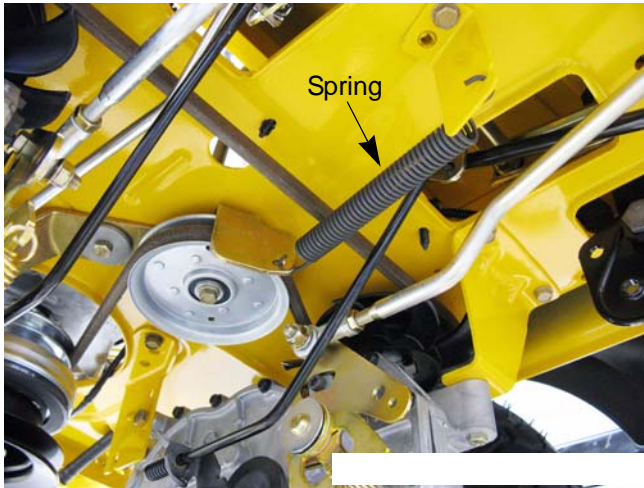

Figure 4.24
3. Remove the idler pulley tensioning spring. See Figure 4.24.